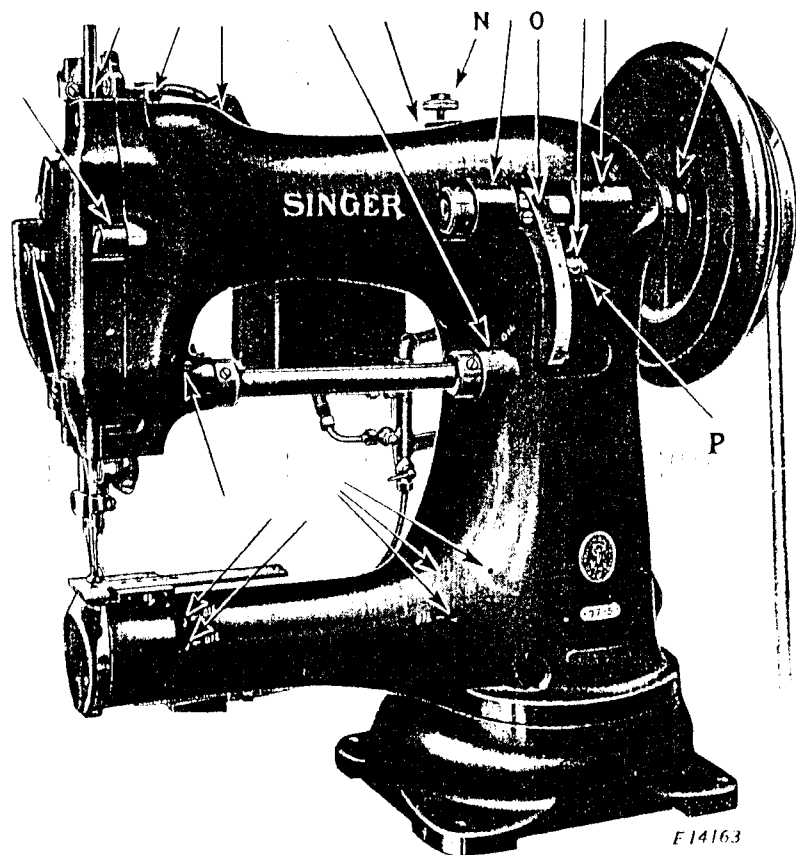

Fig.9. Oiling Points at the Front of the Machine
Stitch length is regulated by lever (P, Fig. 9, page 12) in the slot on the front of the arm. Indicator (O, Fig. 9, page 12) is marked with figures corresponding with the range of number of stitches to the inch that the machine will make. Lever (P, Fig. 9) indicates the number of stitches to the inch that the machine is set to make.
To alter stitch length, loosen nut on lever (P, Fig. 9) using the wrench furnished for this purpose, and move lever (P) until it is opposite desired number on indicator, then tighten the nut.
The pressure on the material is regulated by the thumb screw (N, Fig. 9, page 12) at the top of the machine. To increase the pressure, turn the thumb screw over to the right. To decrease the pressure, turn the thumb screw over to the left.
The places where the machine should be oiled are indicated, in Figs. 9 and 10, by unlettered arrows pointing to the oil holes and bearings.